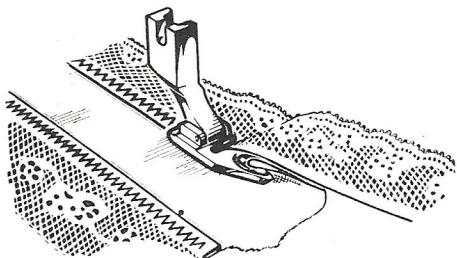

Fig. 36
c) HEMMING AND SEWING ON LACES (Fig. 36)